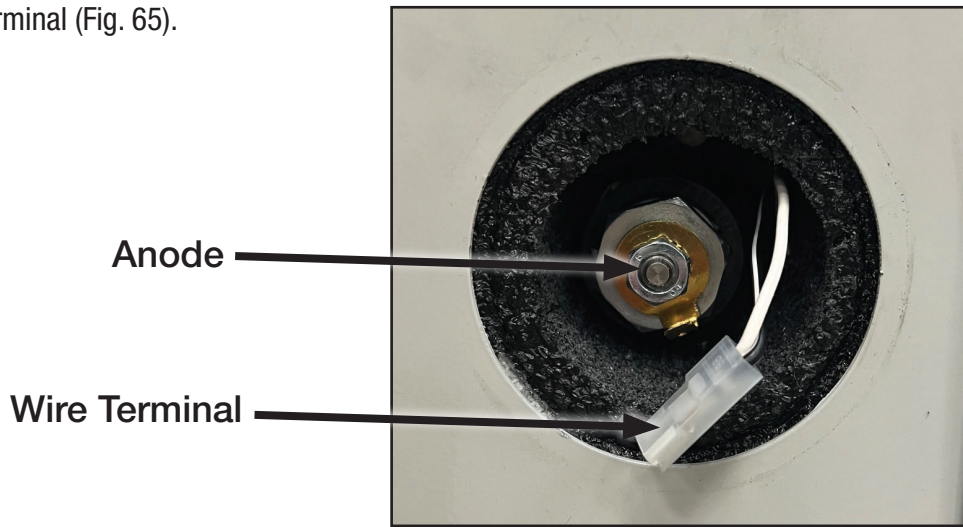

Fig. 65
4. Disconnect the wire terminal (Fig. 65).